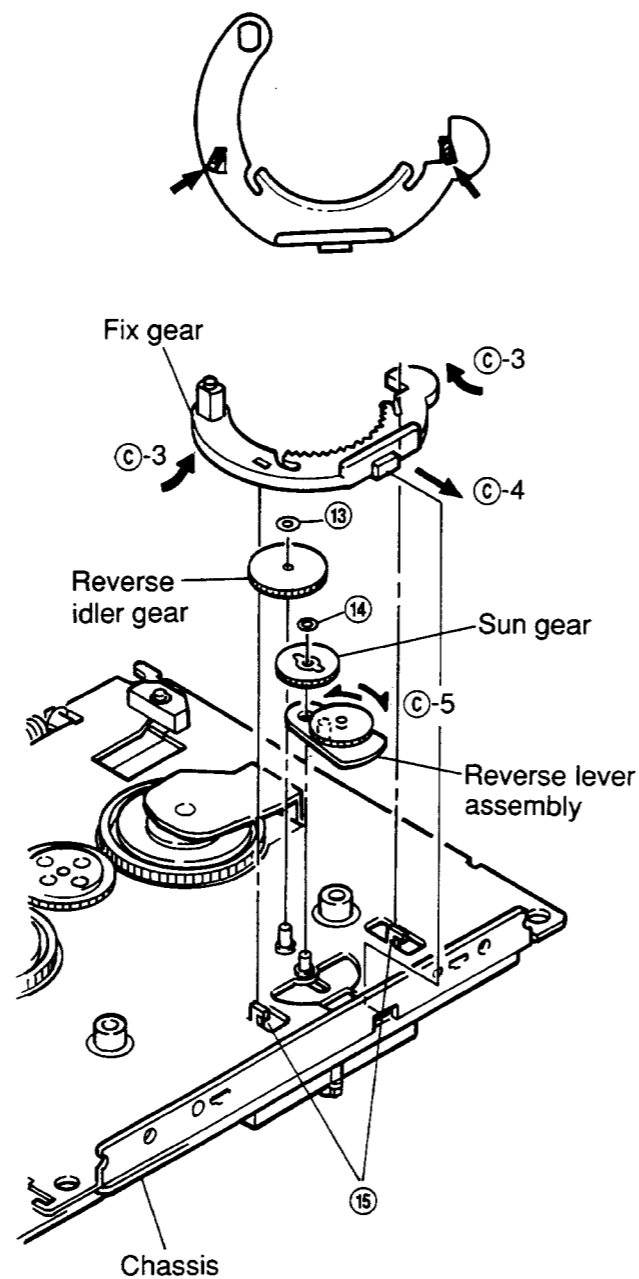

Figure 13
- (1) Remove M1.2 lock washer ⑬, pull it up from the stud of the chassis and remove the gear as shown in Figure 13.
- (2) Remount following the removal steps in the reverse order.
- (1) Remove M1.2 lock washer ⑭, pull it up from the stud of the chassis and remove the gear as shown in Figure 13.
- (2) Mount it, following the removal steps in the reverse order.
- (1) Adjust the two mounting claws for the fix gear on the chassis ⑮ and remove the section ㉑-3 of the gear by pulling it up in the direction of the arrow shown in Figure 13.
- (2) Insert the section ㉑-4 of the new gear into the chassis, and mount it following the removal steps in the reverse order as shown in Figure 13.
- (1) Remove both the fixing gear and the sun gear and remove the reverse lever assembly as shown in Figure 13.